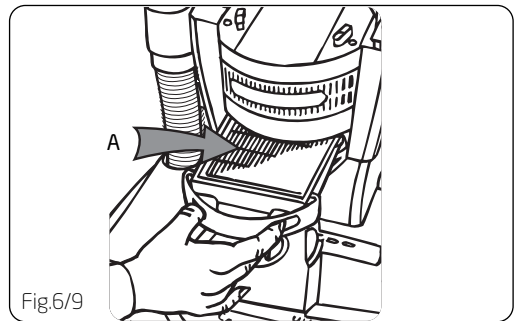

Fig.6/9
With fingers in slots, pull filter frame (A) straight out (Fig.6/9).